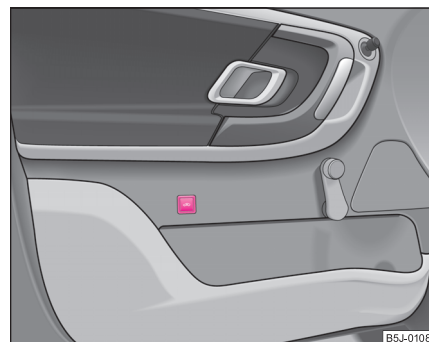

Fig. 28 Interior monitor pushbutton
- Press the button  on the driver door $\Rightarrow$ page 49, fig. 28.